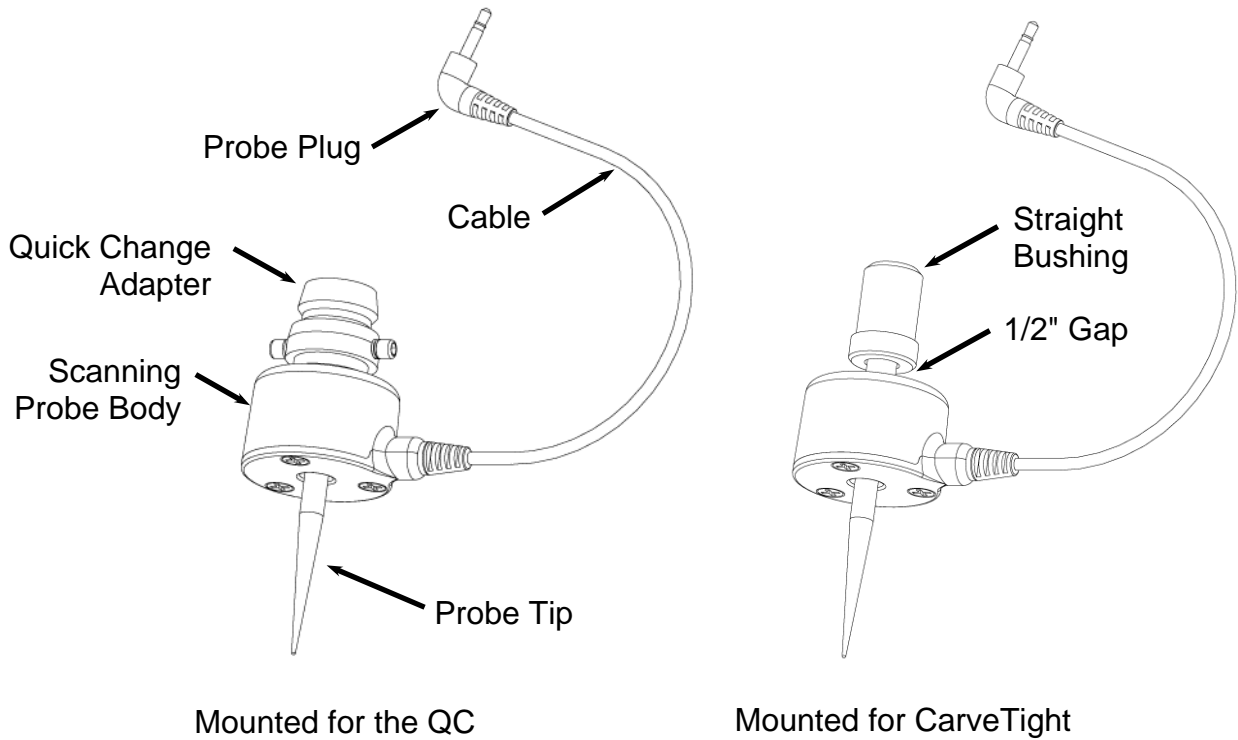

FIGURE 3: SCANNING PROBE FEATURES
The Scanning Probe can be used with either the Quick Change Chuck (QC) or CarveTight Spindle system. For the CarveTight, simply insert the straight bushing all the way into the machine spindle and tighten the grab paw just like you would when using a 1/2" shank bit. If you have upgraded to the CarveTight spindle, remove the tapered adapter and press the straight bushing down to within 0.25" of the probe body (See Figure 3).